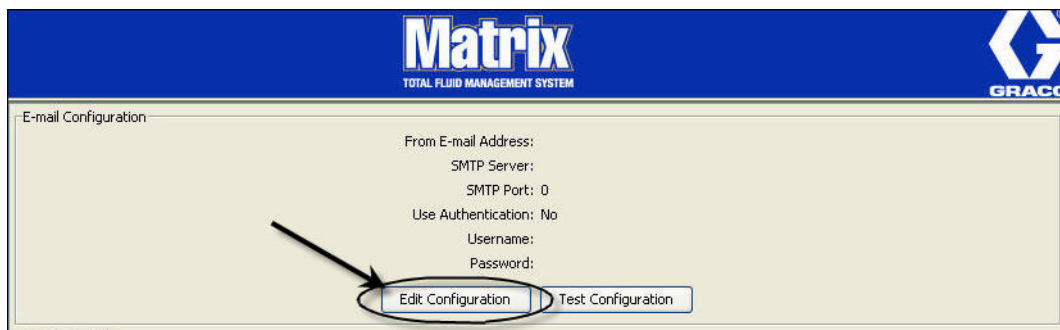

FIG. 136
1. To setup the Matrix system for e-mail notification or change the existing e-mail configuration, click the Edit Configuration Button (FIG. 136).